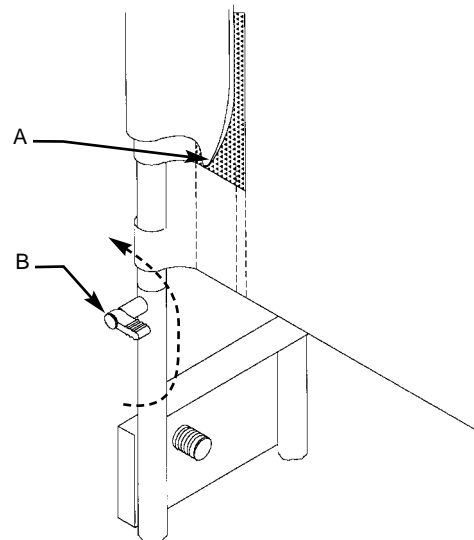

Figure 4
- 4 Fit the backrest by rotating the lever (B) at each side of the wheelchair to point upwards and slide the backrest fully into position; rotate the two levers (B) to point downwards thus locking the backrest (see FIG 4). Check that the backrest is securely fitted by lifting it upwards. It should not be possible to remove the backrest if the levers have been located correctly. Lift up the skirt guards ensuring that the rear flap (A) passes around the backrest tube and fasten the Velcro panels together (see FIG 4).